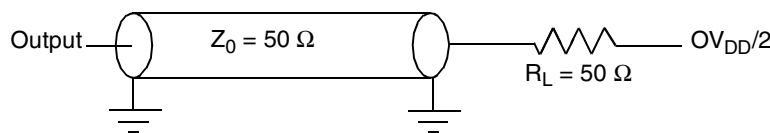
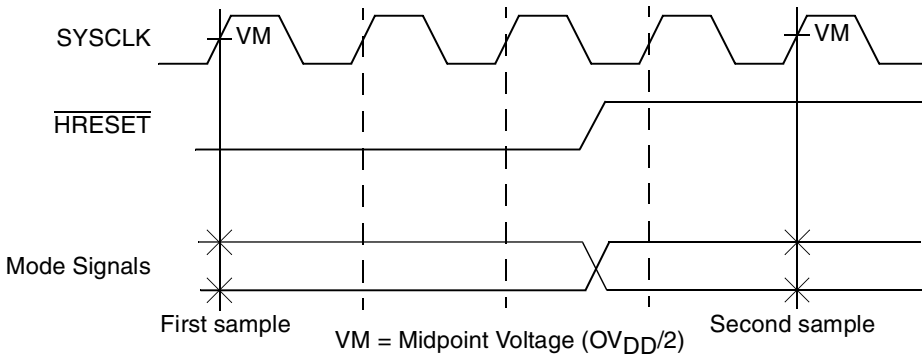

Figure 4. AC Test Load
Figure 5. Mode Input Timing Diagram
1. All input specifications are measured from the midpoint of the signal in question to the midpoint of the rising edge of the input SYSCLK. All output specifications are measured from the midpoint of the rising edge of SYSCLK to the midpoint of the signal in question. All output timings assume a purely resistive 50- Ω load (see Figure 4). Input and output timings are measured at the pin; time-of-flight delays must be added for trace lengths, vias, and connectors in the system.
2. The symbology used for timing specifications herein follows the pattern of $t_{(\text{signal})(\text{state})(\text{reference})(\text{state})}$ for inputs and $t_{(\text{reference})(\text{state})(\text{signal})(\text{state})}$ for outputs. For example, t_{VKH} symbolizes the time input signals (I) reach the valid state (V) relative to the SYSCLK reference (K) going to the high (H) state or input setup time. And t_{KHOV} symbolizes the time from SYSCLK(K) going high (H) until outputs (O) are valid (V) or output valid time. Input hold time can be read as the time that the input signal (I) went invalid (X) with respect to the rising clock edge (KH)—note the position of the reference and its state for inputs—and output hold time can be read as the time from the rising edge (KH) until the output went invalid (OX).
4. Includes mode select signals: BVSEL, EMODE, L2VSEL. See Figure 5 for mode select timing with respect to $\overline{\text{HRESET}}$.
Figure 4 provides the AC test load for the MPC7410.
Figure 5 provides the mode select input timing diagram for the MPC7410. The mode select inputs are sampled twice, once before and once after HRESET negation.